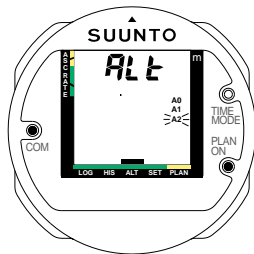

Fig. 4.9 PERSONAL/ALTITUDE ADJUSTMENT SETTING, STEP 3
3. Connect again the PLAN/ON and COM contacts until the blinking personal/altitude adjustment mode starts to scroll. Release your fingers when the desired mode is blinking (Fig. 4.9). Wait at least two seconds but no more than four seconds before next step.